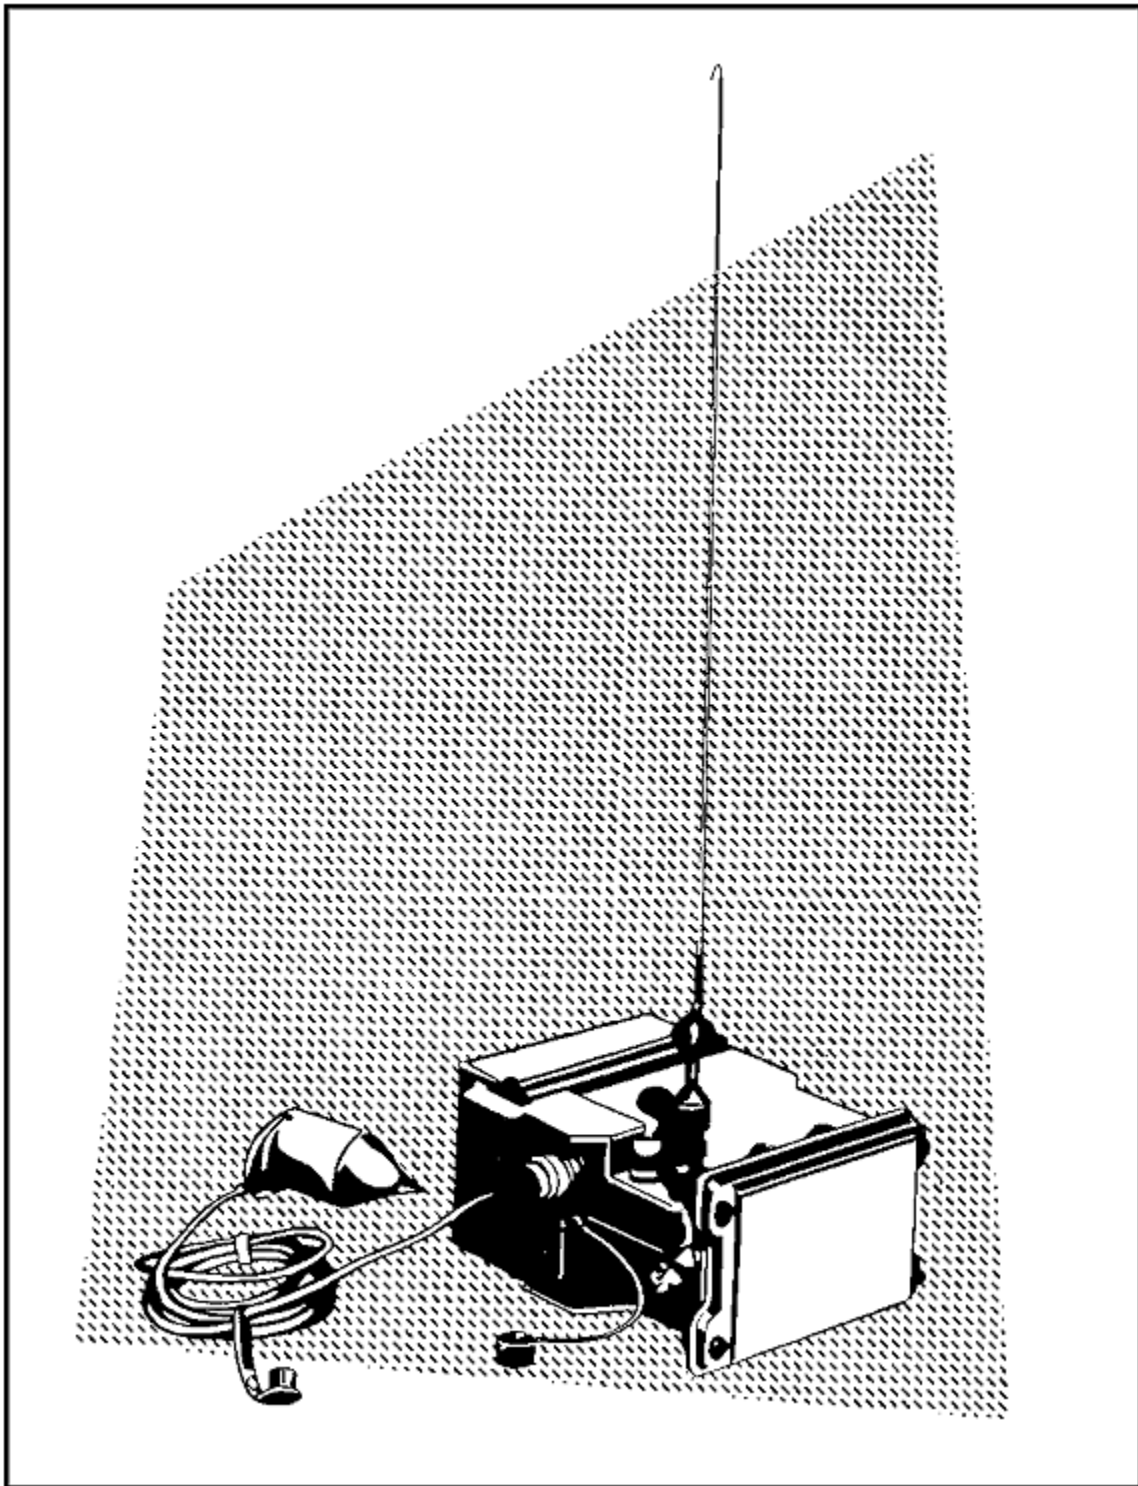

Figure 2-1. Magnetic Sensor DT-561/GSQ.
(1) MAGNETIC SENSOR DT-561/GSQ (See Figure 2-1)